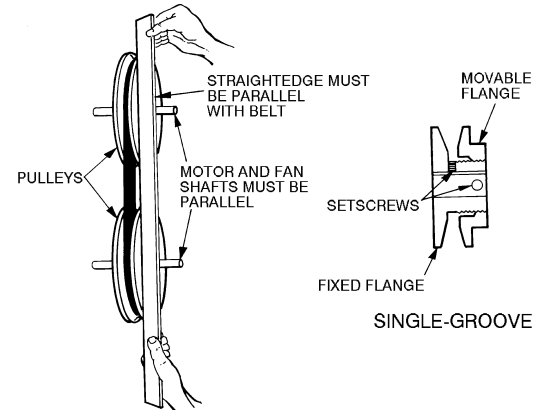

Fig. 44 — Evaporator-Fan Pulley Adjustment
3. Loosen movable pulley flange setscrew (see Fig. 44).